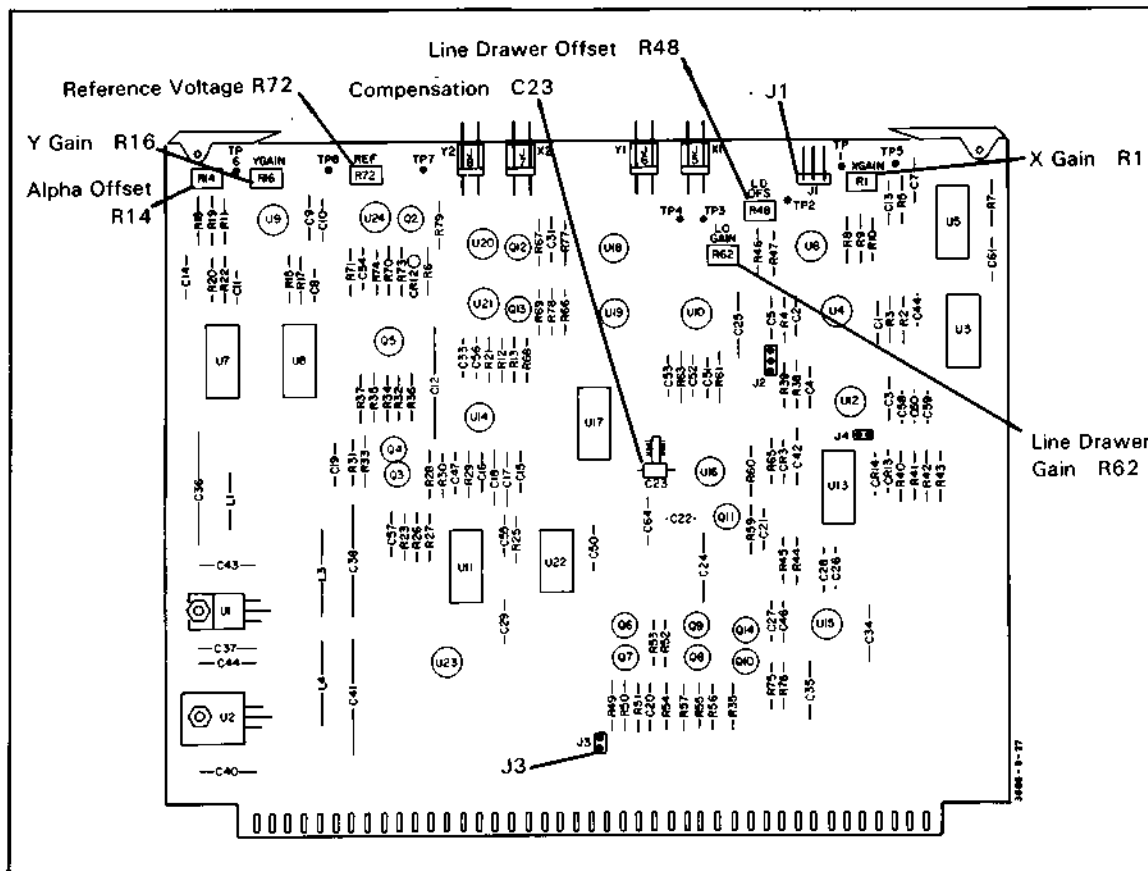

Figure 5-14. Analog Display Driver Board (A64)
- e. Adjust A67R59 (X position), A67R85 (Y position), A67R54 (X gain) and A67R80 (Y gain) so that the displayed pattern is vertically and horizontally aligned with the CRT graticule. (Preliminary adjustment.) See Figure 5-14 for adjustment locations.